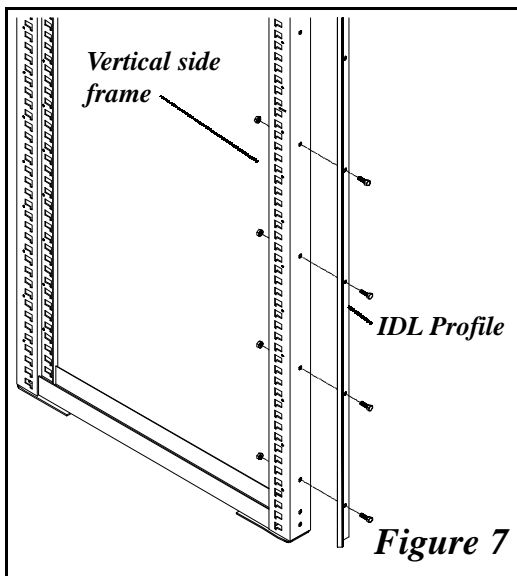

Figure 7
- To use the IDL option, an IDL vertical profile must be attached to the front of the vertical side frame (See Figure 7).
- If holes are present, attach the IDL profile to the vertical side frame with holes pre-punched along the front post. This should be on the same side that the IDL will be installed (See Figure 7).